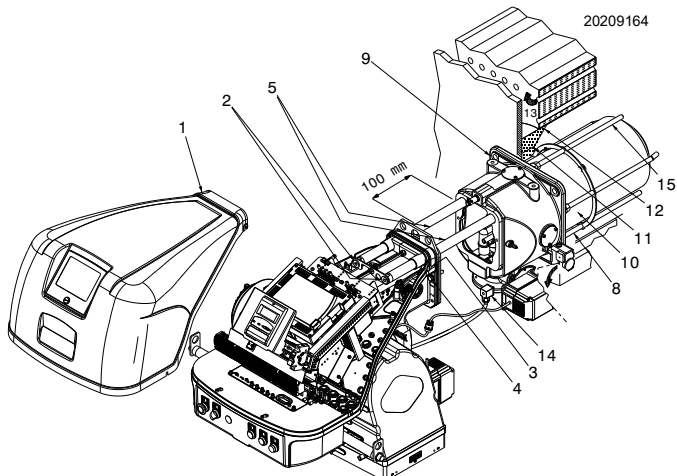

Fig. 16
For boilers with front flue passes 13)(Fig. 16), a protection in refractory material 11) must be inserted between the boiler fettling 12) and the blast tube 11).
Divide the combustion head from the rest of the burner, as shown in Fig. 16; you have to:
Pay particularly attention to the external gas pipes 15 (Fig. 16) during the burner fixing to the boiler in order to avoid to damage them.
- reassemble the burner on the slide bars 3) at about 100 mm from the pipe coupling 4) burner in the position shown in Fig. 16 on page 22;